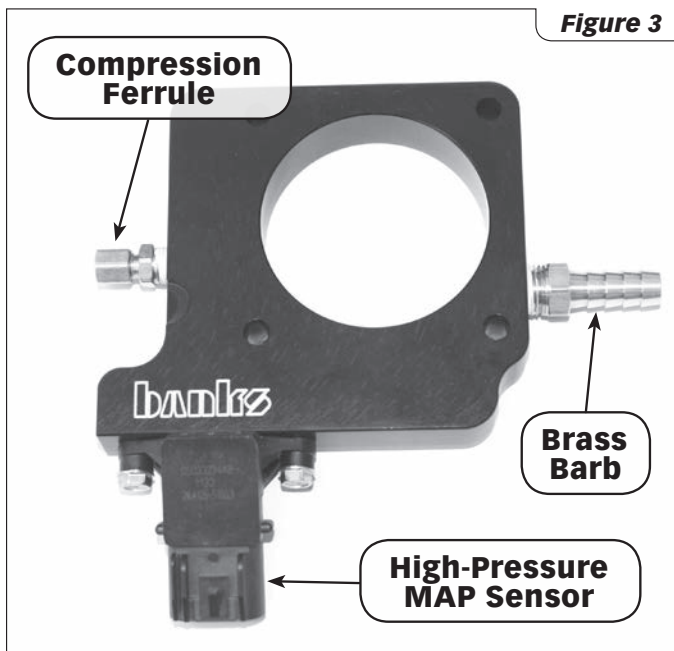

Figure 3
sensor (P/N 43625) in throttle body spacer (P/N 43628) using provided washers (P/N 91826) and bolts (P/N 91860). **See Figure 3**
3. Mount brass barb fitting (P/N 92131) and brass compression ferrule (from boost gauge kit) in throttle body spacer (**Figure 3**) using provided thread sealant (P/N 90040).